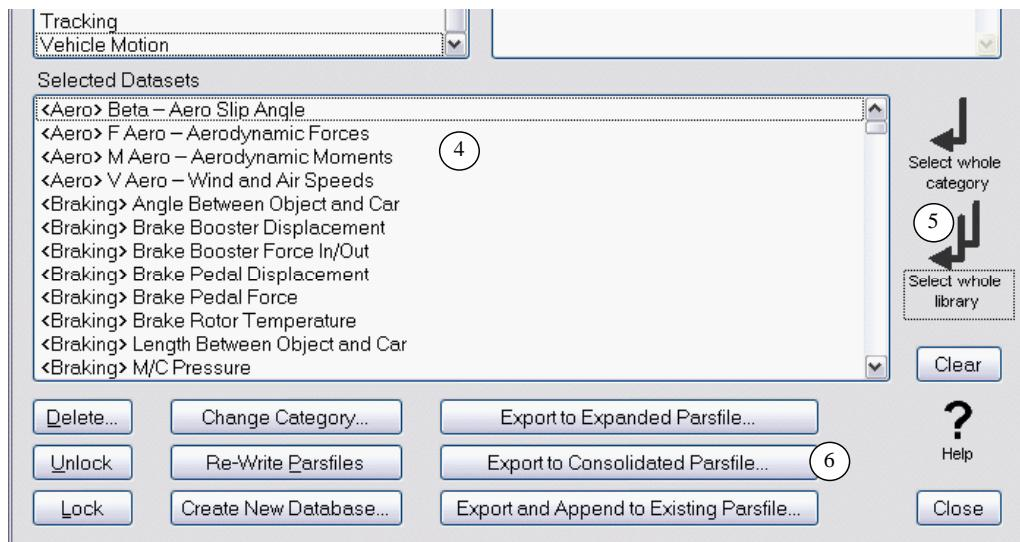

Figure 72. The **Library Tool** window: after all datasets are selected.
7. Click the button **Select whole library** ⑤. This moves all datasets from all categories into the bottom list ④ (Figure 72). Once there are selected datasets, the buttons at the bottom of the window are active and you can export all plot setups for use in the other database.